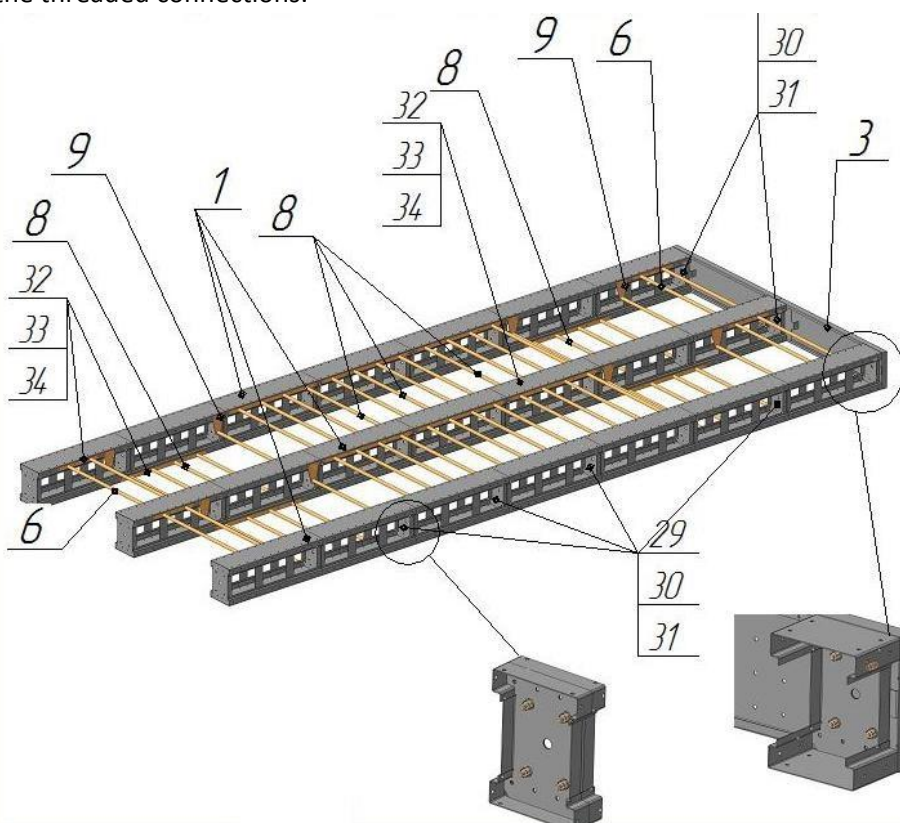

Fig.3
3.6 On the flat surface assemble the upper part of Complex (see fig. 3) consisting of the assembly units - positions 1, 6, 8, 9, 3 (see Table 2) and metal hardware № 32, 33, 34, № 29, 30, 31. Do not tighten the threaded connections.